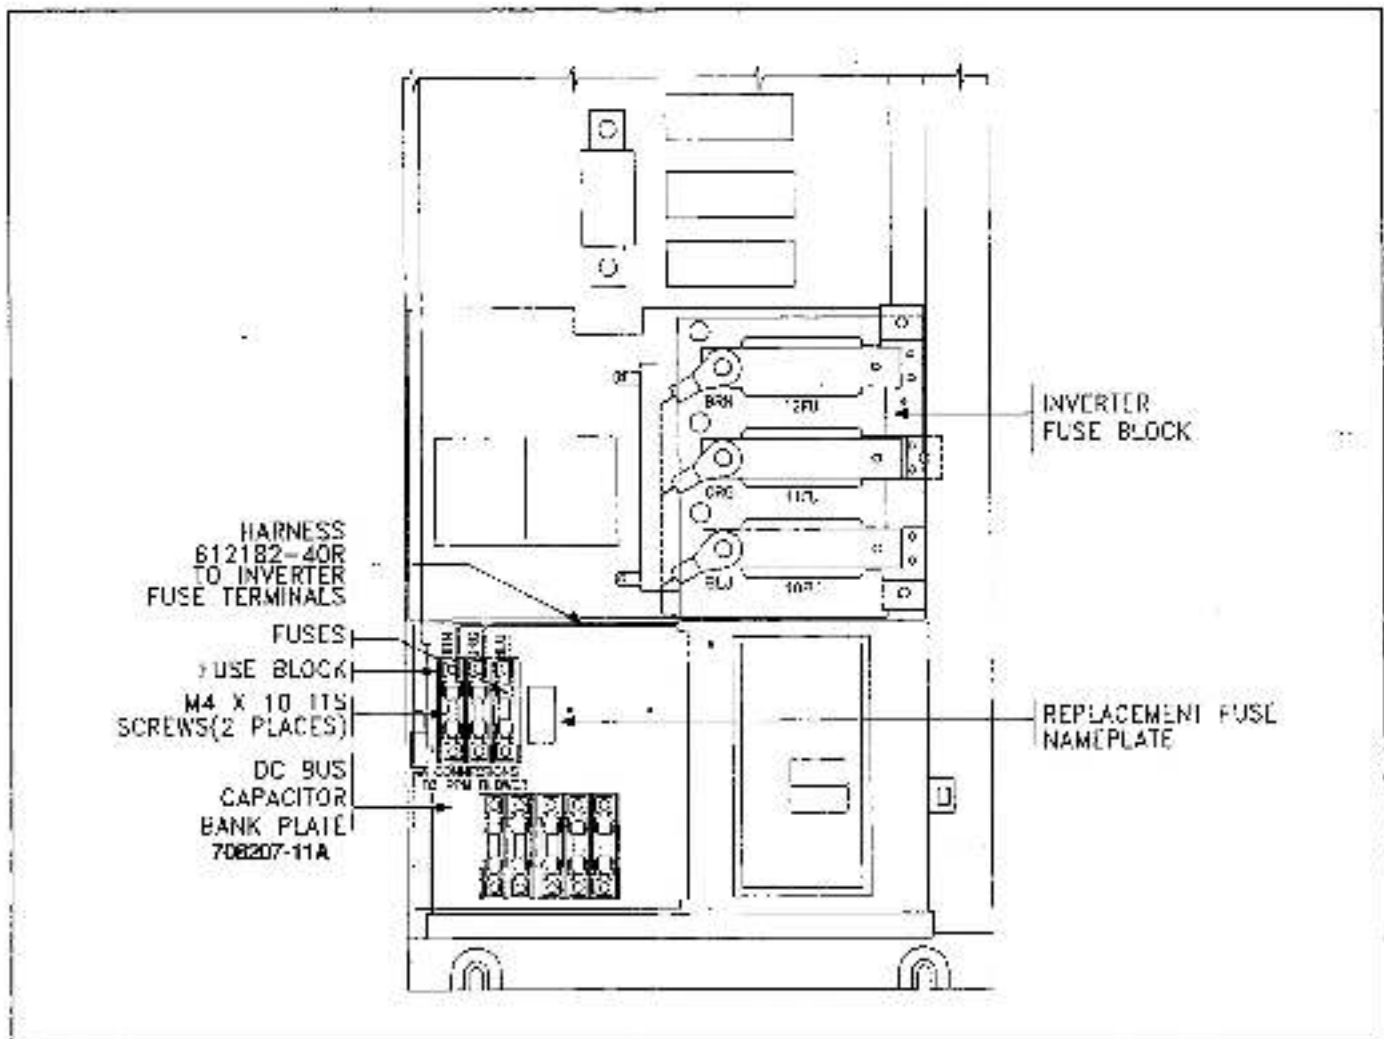

Figure 2. Fuse Block Mounting Location and Connection Diagram (50-100 HP GP2000 and 60-100 HP YTAC V Controllers).
2. Loosen the two (2) captive screws and open the hinged cabinet door.
3. Mount the fuse block in the inverter cabinet on the D-C Bus Capacitor Bank plate 708207-11A, located above the capacitor bank. Refer to Figure 2 for mounting location. Use M4 x 10 TTS screws to mount the fuse block.
5. Using wire harness 812182-40R (BRN/ORG/BLU), connect the terminals on the top of the fuse block to their respective inverter fuse block terminals. Refer to Figure 2 for wiring detail.
6. Using wire selected in accordance with all applicable codes, connect the leads on the RPM blower motor to the terminals on the bottom end of the fuse block. Route the motor lead wiring through an appropriate conduit hole on the top or bottom of the inverter cabinet. Refer to Figure 2 for wiring detail.
8. Select the appropriate nameplate based on the fuse amperage selected in the previous step. Mount the nameplate beside the fuse block. Refer to Figure 2 for location.